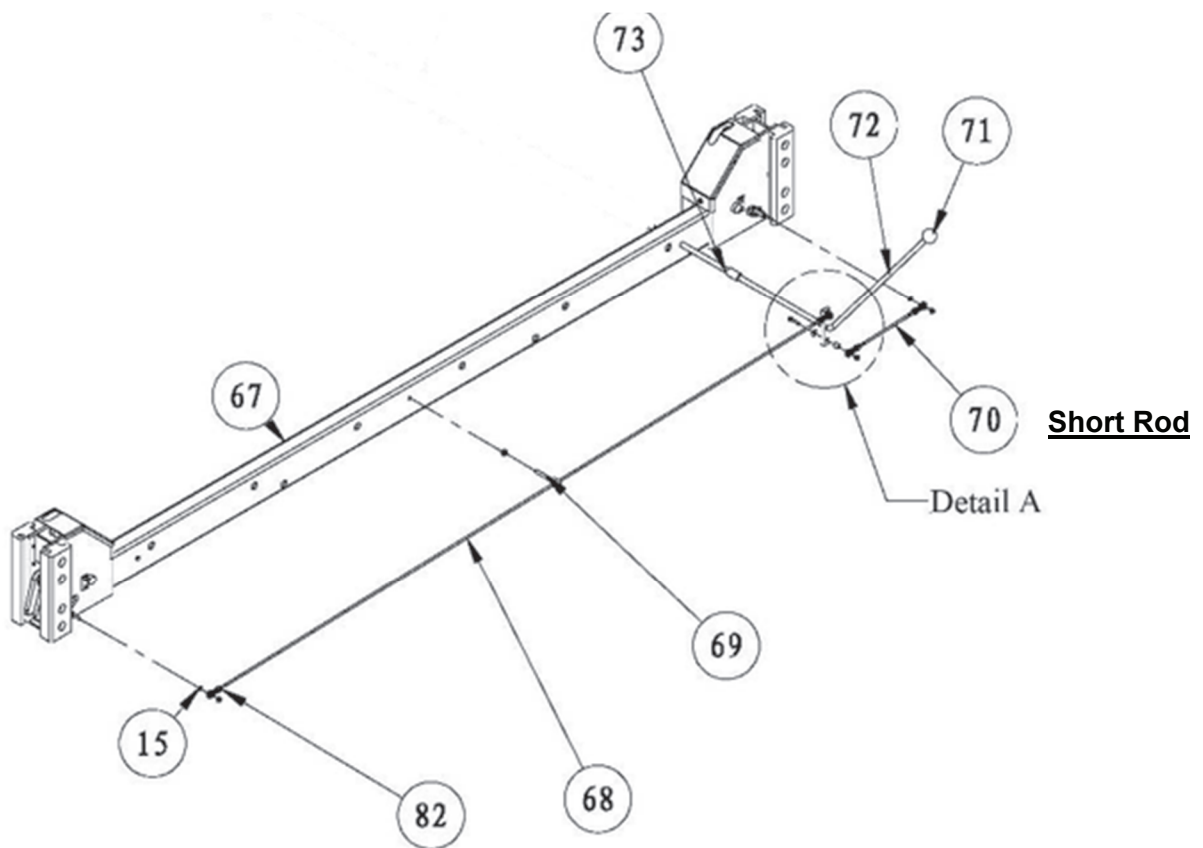

Fig. 3
9. Arrange the Crossbeams so that the Latches' Linkage Rods are facing outward and the Short Rod (#70) is closest to the Power Unit Column, as shown below in Fig.3.